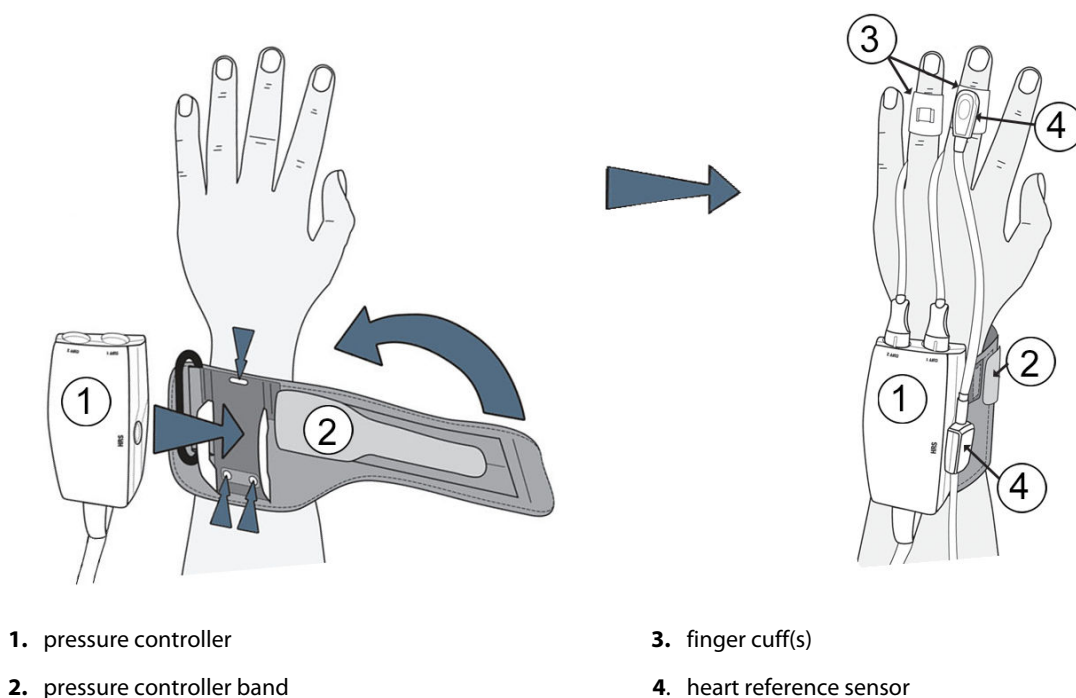

Figure 11-2: Pressure controller application
The pressure controller kit (PC2K or HEMPC2K) consists of a pressure controller (PC2 or HEMPC) and accompanying band (PC2B). A pressure controller cover is available as an accessory. The pressure controller cover secures the heart reference sensor into the pressure controller. See Pressure Controller Cover on page 336. Device performance, including functional characteristics, have been verified in a comprehensive series of testing to support the safety and performance of the device for its intended use when used in accordance with the established Instructions for Use. The pressure controller is worn on the patient's wrist and connects to the HemoSphere ClearSight module, HRS and finger cuff(s). See Figure 11-2 on page 192.
1. Wrap the pressure controller band around the patient's wrist. The non dominant hand is preferred for monitoring in awake patients. (Figure 11-2 on page 192, left)